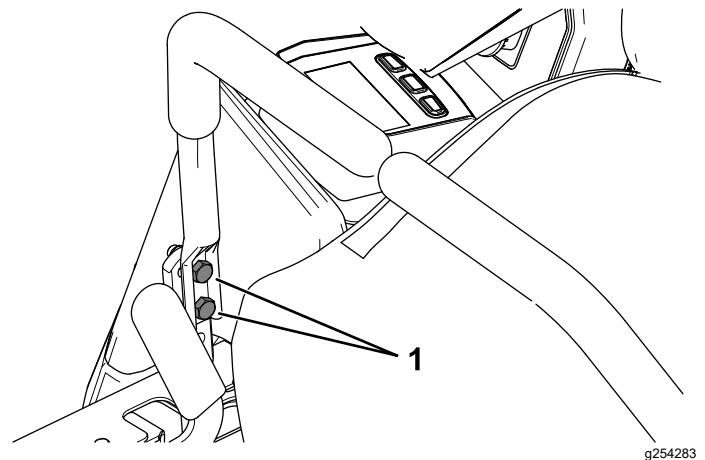

Figure 52
10. If alignment is needed, loosen the 2 motion-control lever mounting bolts on the misaligned side (Figure 52).
12. Tighten the 2 motion-control lever mounting bolts (Figure 52).